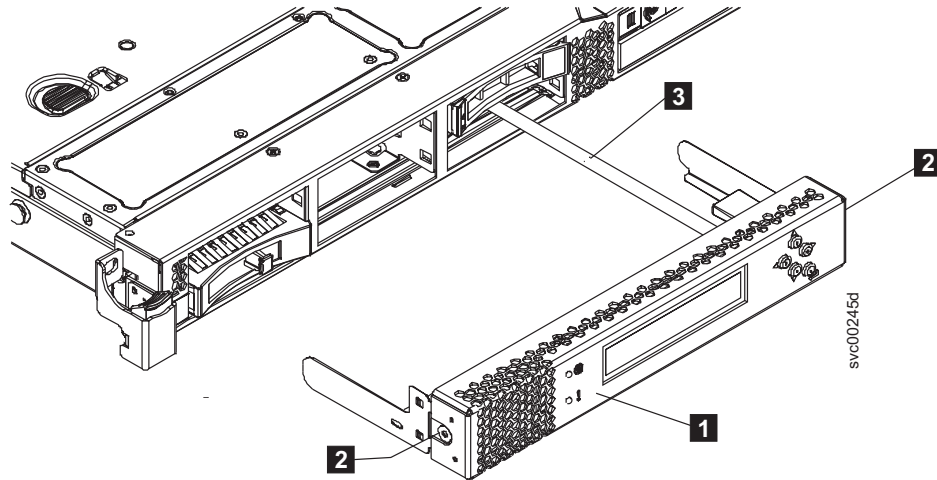

Figure 77. Service controller for the SAN Volume Controller 2145-CF8 with attached USB cable
7. Gently press both release buttons, shown by **2** in Figure 77 on page 93, and release the catch while pulling gently forward on the service controller. The service controller moves slightly forward.